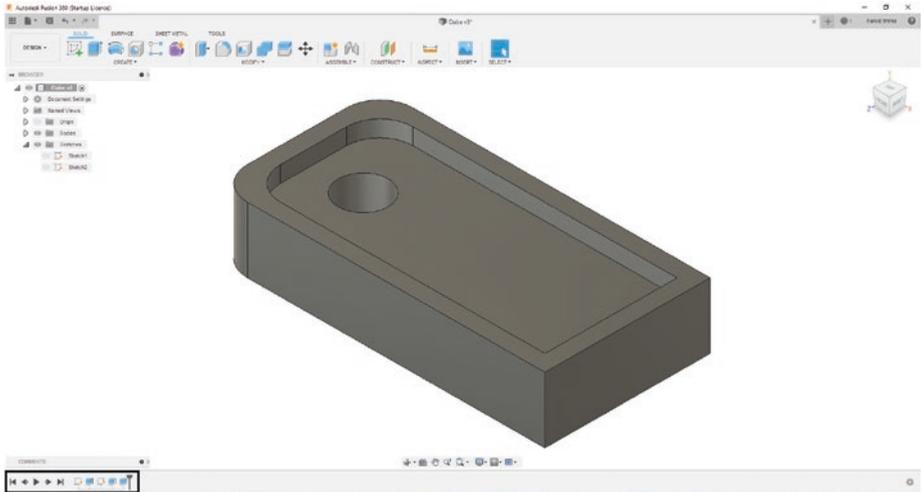

Figure 3-80. Move the Design History Bar slider all the way to the right
38. Move the History slider to the very end and see the result! See Figure 3-80.